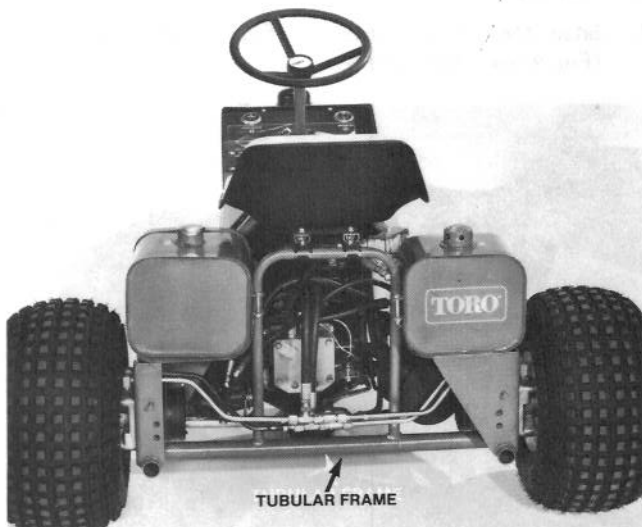

Figure 1
4. Place a jack under the tubular frame (Fig. 1).